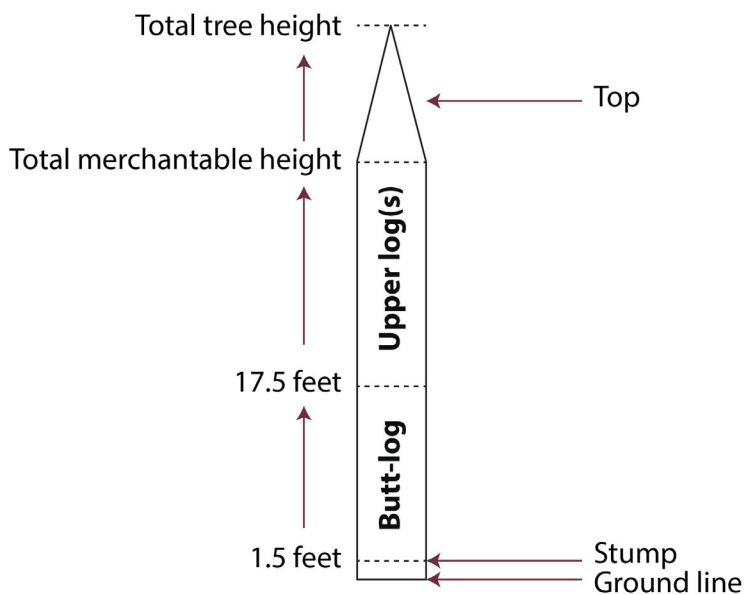

Figure 1. Log locations within the main stem of a tree.
Tree grade is a measurement used to express the wood quality of a tree. Grade is determined using the amount of clear wood (defect-free stem length) within the buttlog portion of a tree (Figure 1). The butt-log of a tree is the lowest 16-foot section above the stump height (approximately 1.5 feet). Though
1. **Establish the butt-log:** Establishing the butt-log of a tree is a simple process. First, determine stump height. For most trees, this will be within 1.5 feet off the ground. Exceptions may occur if a tree has a large amount of swell at the base or if a split trunk is present (Figure 7). For trees with normal taper, simply measure or estimate 17.5 feet from the ground to establish the butt-log (Figure 1). If a tree contains swell or a split trunk, the butt-log will be the first 16 feet above the defect. For grading purposes, it is recommended that the larger of two split stems is graded.